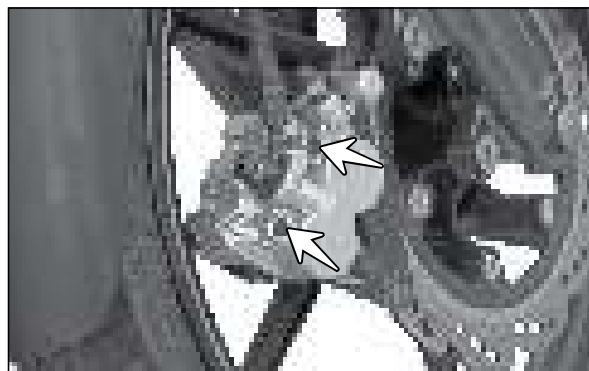

Fig. 6.15
- Remove the plug pin (2 Nos.) from the caliper body. (Fig. 6.15)